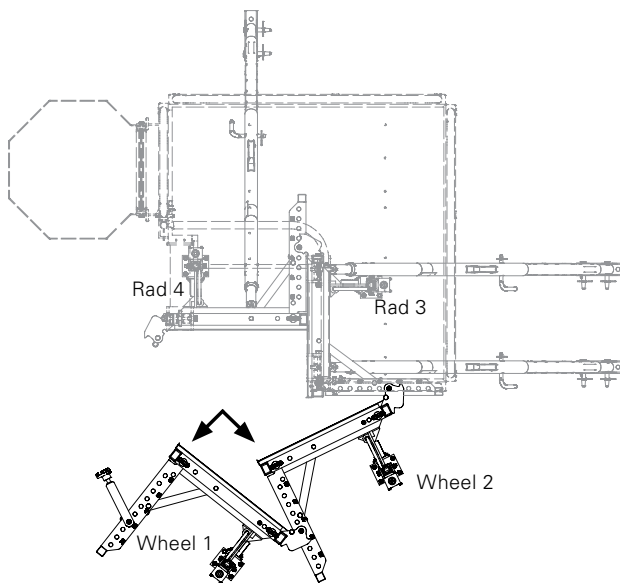

Fig. A5.04
2. Loosen the push-pull props and open formwork until the second unit is released from the concrete. Secure with bolt  $\varnothing 20 \times 140$ . (Fig. A5.04)
- Important: pay attention to the order! Wheel 1 - 4. (Fig. A5.04)